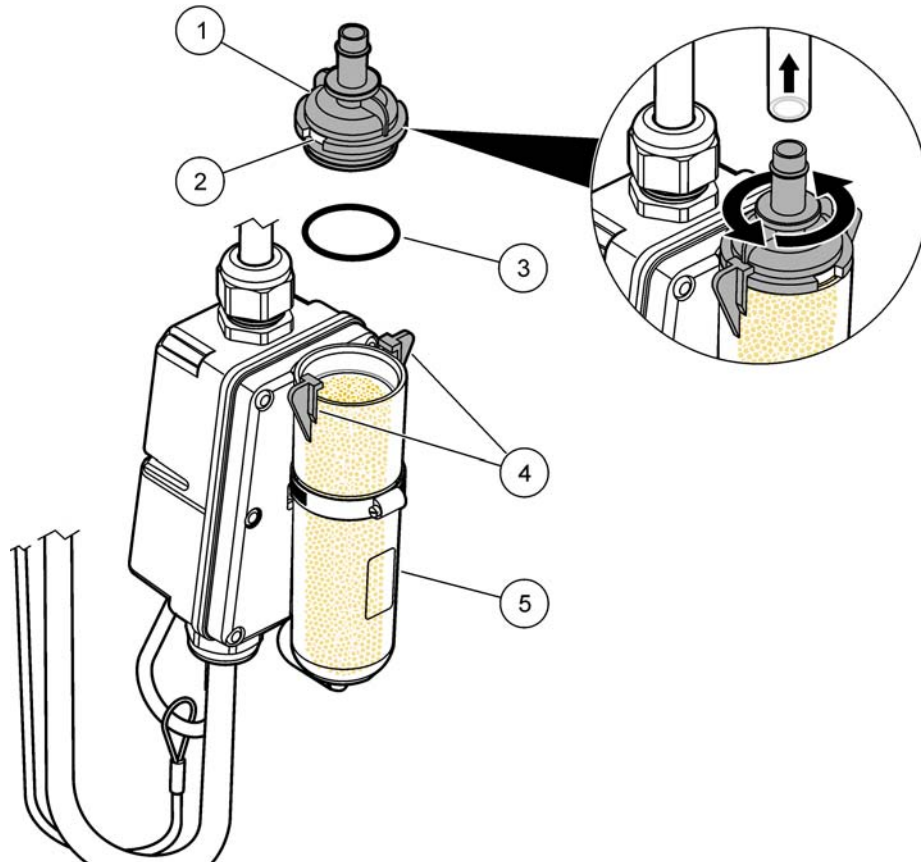

Figure 18 Removing the bottom end cap
1. Use a slight twisting motion to twist the bottom end-cap until its slots align with the retaining clips (Figure 18 on page 34).
For best performance and to avoid grease buildup on the filter during submergence or surcharge conditions, hang the canister vertically so that the end cap points downward (Figure 18).